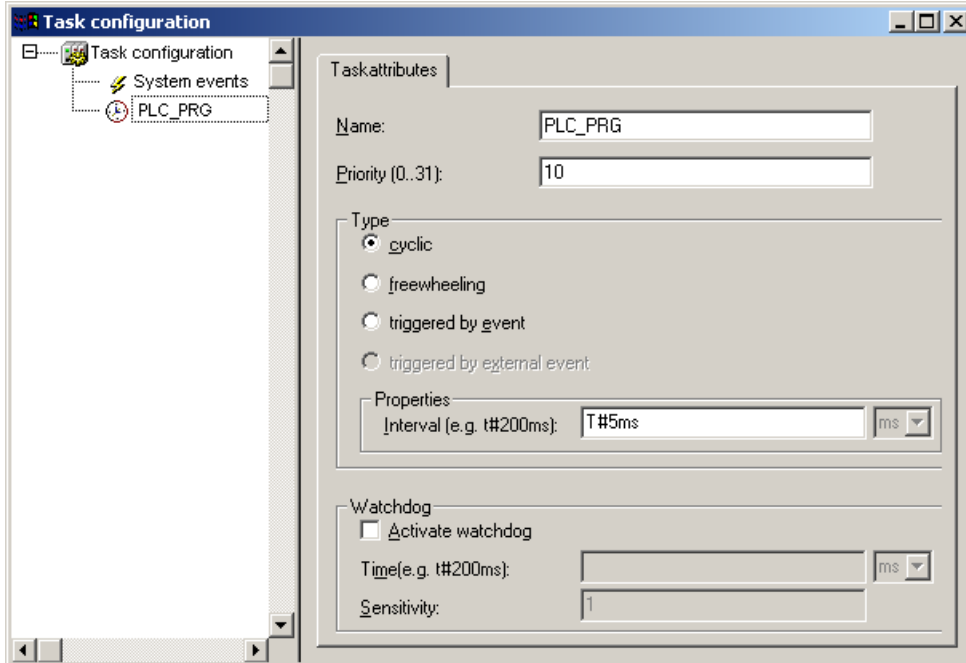

Figure 40, Task Configuration – PLC_PRG
- In the right-hand window, Type PLC_PRG for the name and set the type to Cyclic as shown in Figure 40.